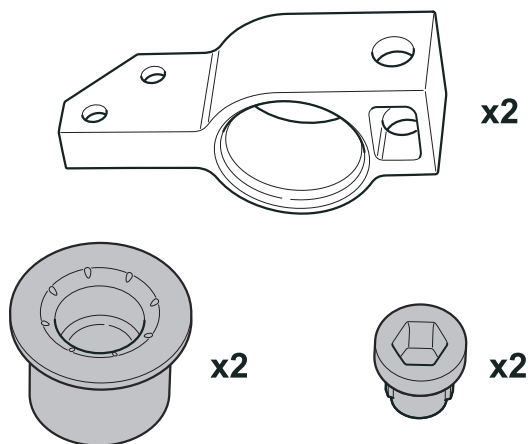
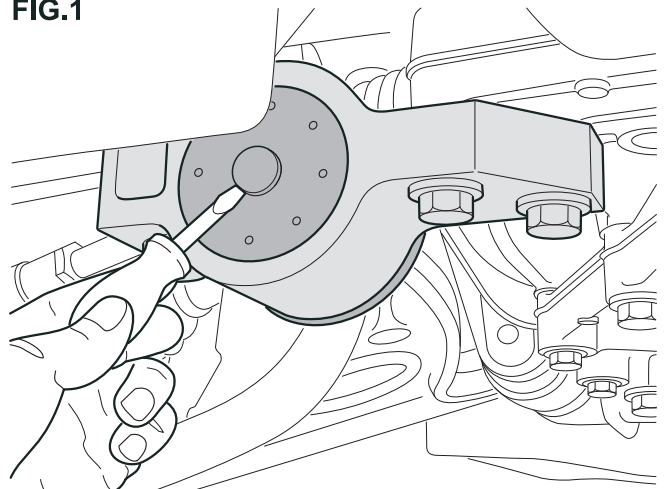

FIG.1
FIG.2
7. Remove the small centre bush 60316A from the extrusion assembly (refer Fig.1) and press onto the hex spigot using a small amount of the grease supplied.
Note: Failure to release the excess air will make the arm more difficult to re-install as the mounting holes will not easily align. (refer FIG 1 + FIG2).